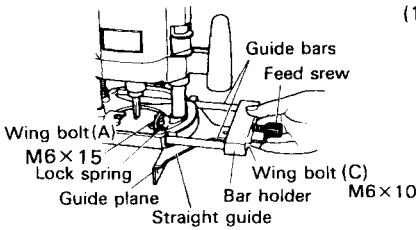

Fig. 10
- (1) Straight Guide (Model M12V, M12SA) :
Use the straight guide for chamfering and groove cutting along the materials side. First of all, as shown in Fig. 10, attach the two wing bolts (A) (M6 × 15) and the two lock springs (both standard accessories) to the screw holes on the top side of the base. Use the feed screw and the wing bolt (C) M6×10 to attach the bar holder to the straight guide. Insert the guide bar in the hole on the base. Attach and tighten the two wing bolts (A) (M6 × 15) in the approximate position. Use feed screw to make minute adjustments of the measurements from the bit to the guide plane. Tighten wing bolt (C) M6×10 and secure straight guide.